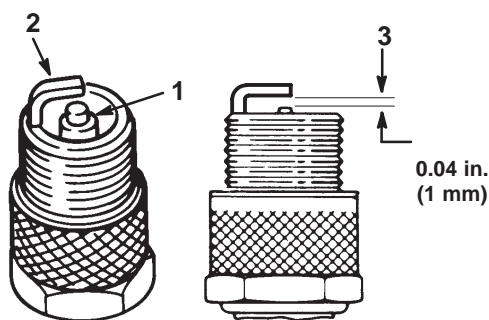

Figure 17
1. Look at the center of the spark plug(s) (Fig. 17). If you see light brown or gray on the insulator, the engine is operating properly. A black coating on the insulator usually means the air cleaner is dirty.
2. Check the gap between the center and side electrodes (Fig. 17). Bend the side electrode (Fig. 17) if the gap is not correct.